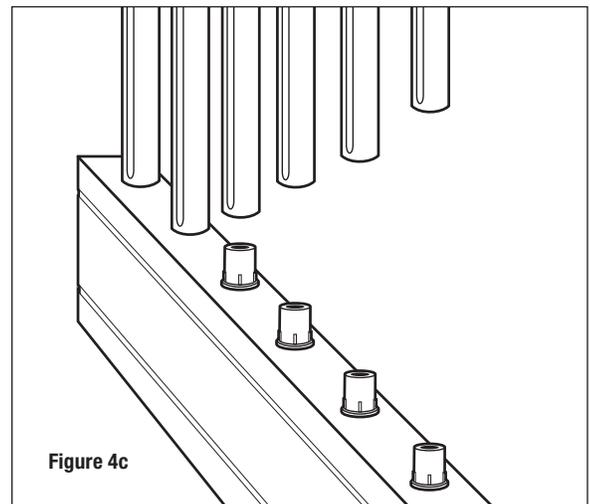

Figure 4c
**Classic, Estate, Twist and Ellipse balusters; and Glass balusters using connectors:** Attach balusters to the lower rail by sliding onto connectors (Figure 4c).